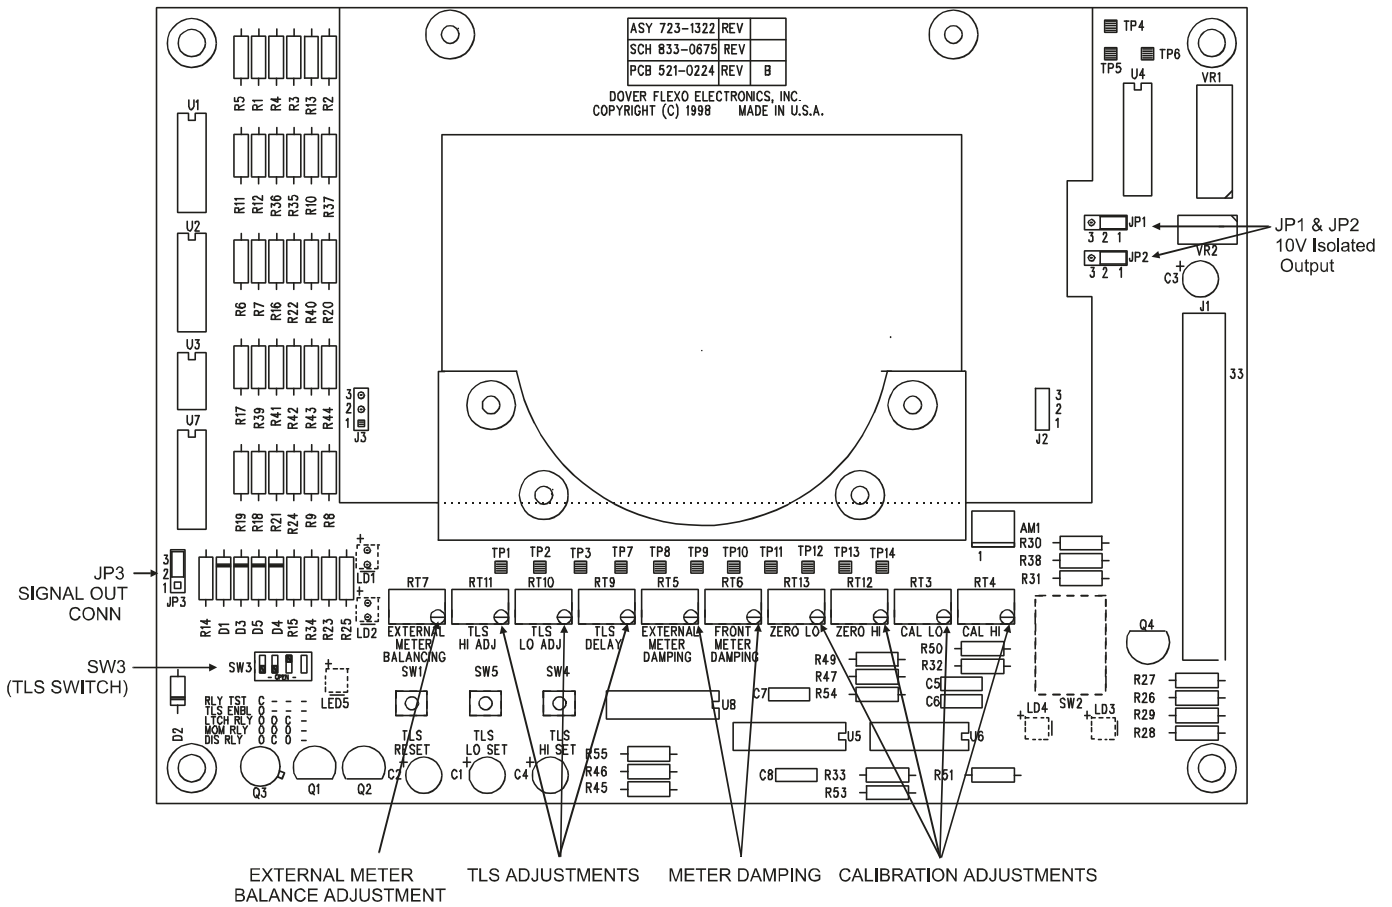

Figure 10 - TI14 FRONT BOARD
3.3 CALIBRATE THE TENSION METER (Refer to Figure 10, page 10 for adjustment pots.)
- a. To select between 0 to +10V or 0 to -10V necessitates a change on jumper JP3. (See figure 10) JP3 is located on the lower left side of the front card. Position the jumper on 1 and 2 for 0 to -10Vdc, and on 2 and 3 for 0 to +10Vdc
Refer to Figures 10 (page 10) and 14 (below) for location of adjustment pots and switches on the Front board. TLS on the TI14 can have a low setpoint and a high setpoint, there is also a relay which can be latched N.O. or N.C. when the low or high setpoint has been exceeded. This relay can be enabled or disabled by configuring a DIP switch (SW3) on as shown below.